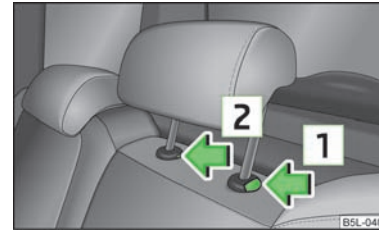

Fig. 47
- Press the locking button in the direction of arrow [1] » Fig. 47, simultaneously press the locking button into the opening [2] using a flat screwdriver with a width of maximum 5 mm and pull out the head restraint.